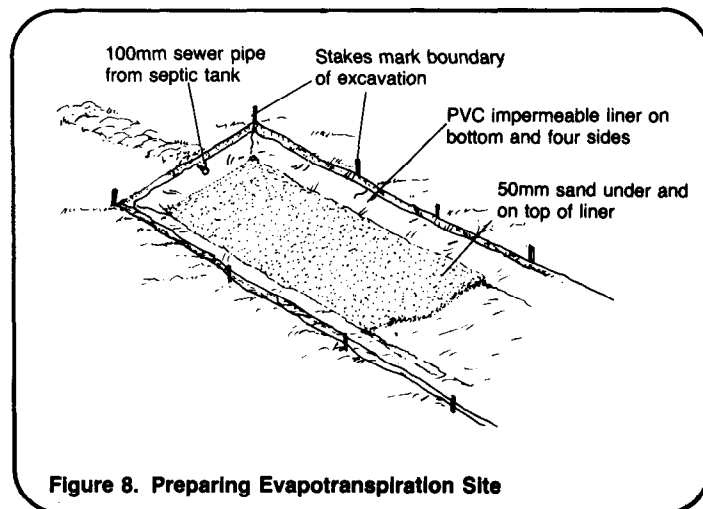

Figure 8. Preparing Evapotranspiration Site
3. Lining the System. Spread a 50mm layer of sand on the bottom of the excavation to protect the liner. Carefully position the impermeable liner preferably of PVC plastic, across the bottom and up the four side walls as shown in Figure 8. Cover the liner with a 50mm layer of sand.